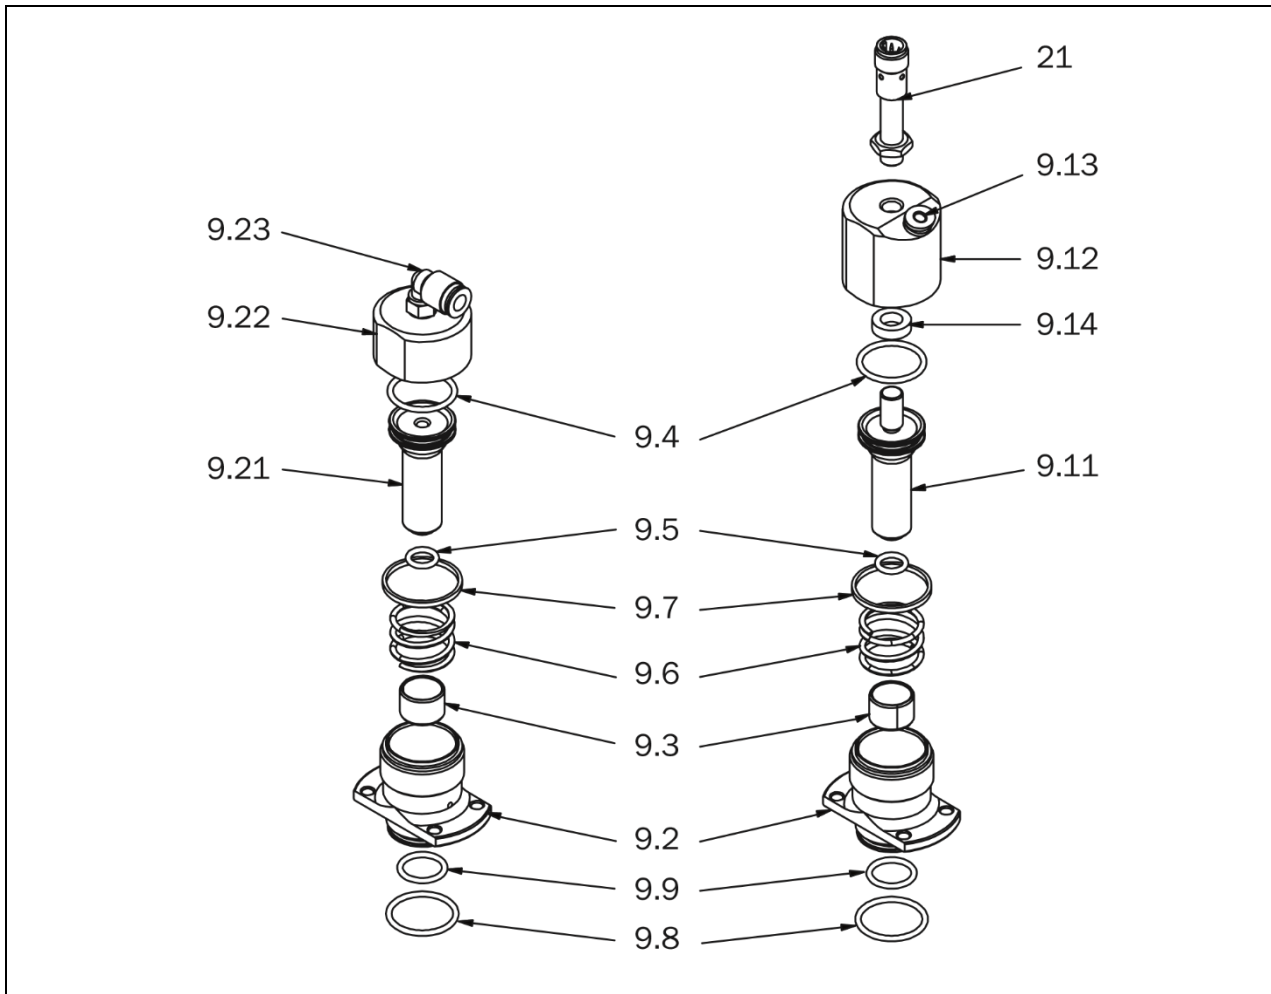

Fig. 6-5: Structure of pneumatically actuated auxiliary valve
- Unscrew the cap (Fig. 6-5, items 9.12 + 9.22) from the auxiliary valve.
- **⚠ WARNING** The pre-tensioned compression spring (Fig. 6-5, item 9.6) can jump out of the auxiliary valve when removing the cap. This can result in injury.
- Carefully pull the valve tappet (Fig. 6-5, items 9.11, 9.21) out of the housing.